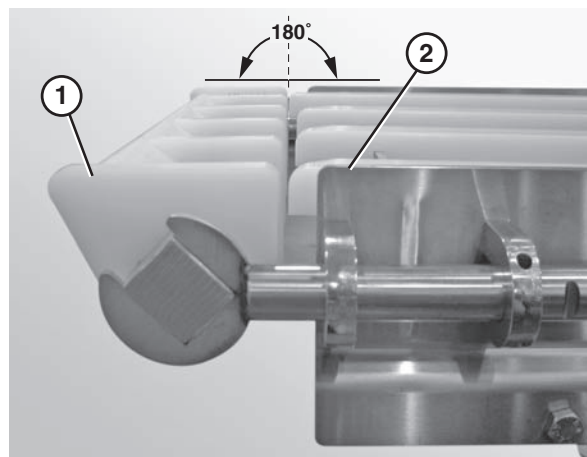

Figure 26
5. Ensure that the nose bar pucks (**Figure 26, item 1**) are in line with the conveyor frame (**Figure 26, item 2**).